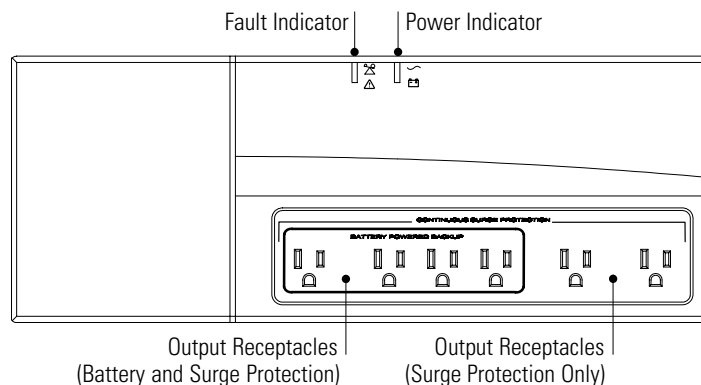
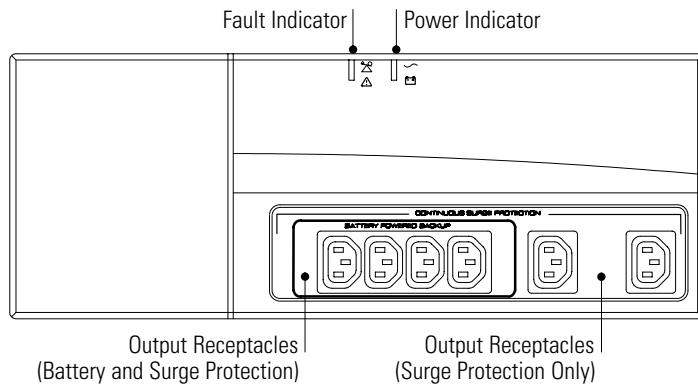
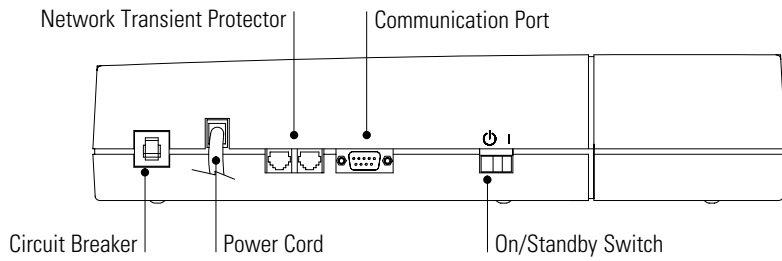
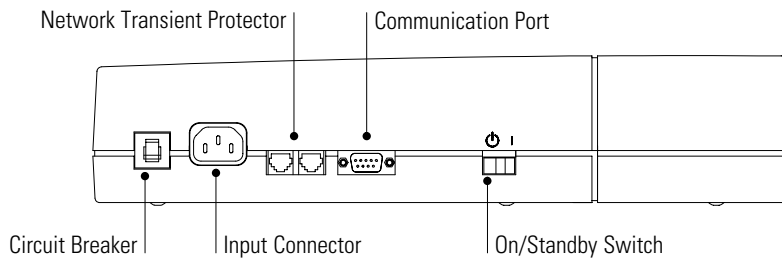

Figure 1. 120V Model Top Panel
Figure 2. 230V Model Top Panel
Figure 3. 120V Model Side Panel (600 VA Shown)
Figure 4. 230V Model Side Panel (600 VA Shown)
3. Start the UPS by pressing the | switch as shown in Figure 3 or Figure 4 on page 4. The Power indicator illuminates indicating that power is available from the UPS output receptacles.
Figure 1 and Figure 3 identify features of the 120V Model (USA) units, with attached input line cord. Figure 2 and Figure 4 identify features of the 230V Model (European) units, which have a connector for the input line cord as well as different output receptacles.